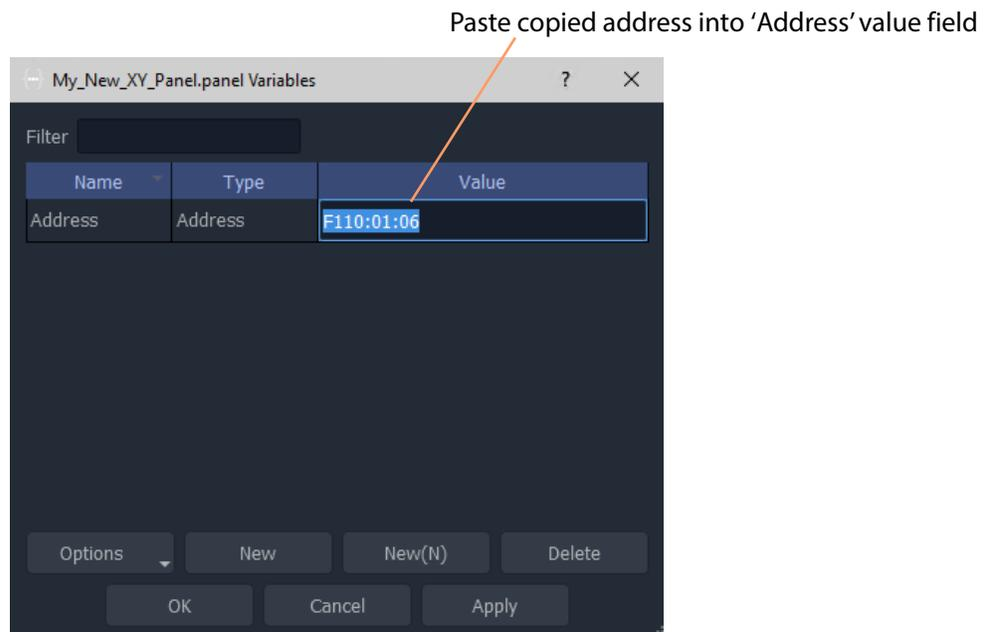

Fig. 6-18: Setting Routing Service RollCall Address for XY Panel
The **Variables** dialog is shown. See Figure 6-18.
- 3 In the **Variables** dialog, paste in the copied RollCall address into the value of the 'Address' variable. See Figure 6-18. (Alternatively, simply enter the address manually.)